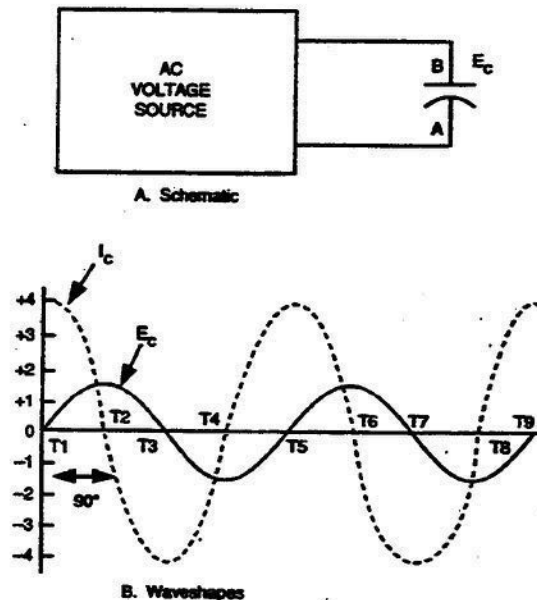

Figure 2-72. A capacitor connected across an AC source.
**Current and voltage phase relationship.** In figure 2-72, A, a capacitor is connected to an AC voltage source that develops a pure sine wave output. The graph in figure 2-72, B shows the relationship that exists between the voltage across the capacitor and the current that charges the capacitor. The solid line represents voltage ( $E_c$ ) and the dotted line represents current ( $I_c$ ). This current charges the capacitor so that, in turn, the capacitor has a voltage that opposes any change in voltage. At the instant voltage is applied by the AC source, the minimum charge across the capacitor (zero volts) allows maximum current ( $I_c$ ) to flow. This, in turn, allows the capacitor to charge.